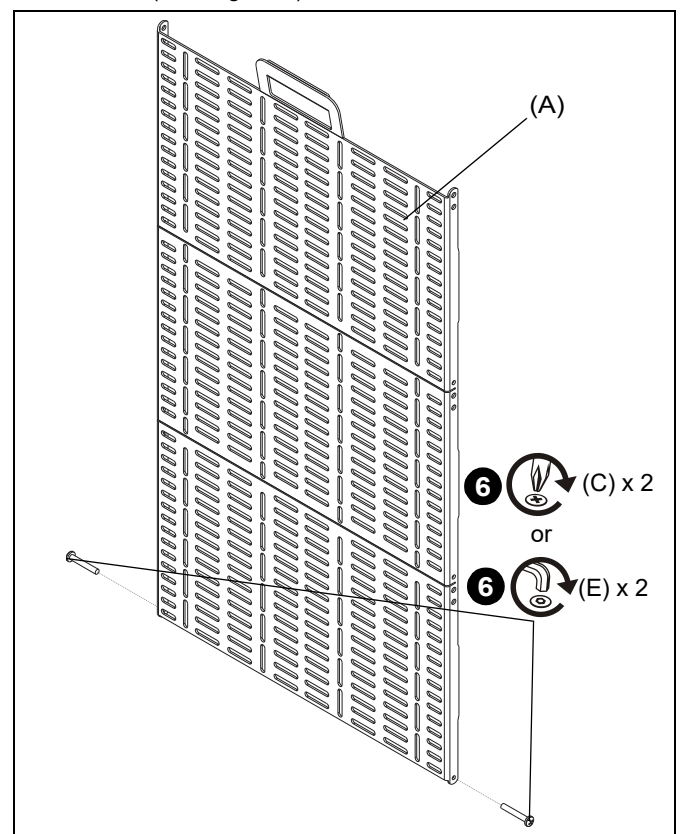

Figure 4
6. Loosely install two #10-24 x 3/4" Phillips pan machine screws (C) into bottom holes on accessory desk plate (A). Two #10-24 x 1/2" button head security screws (E) may be used in place of two Phillips screws (C) if greater security is desired. (See Figure 4)